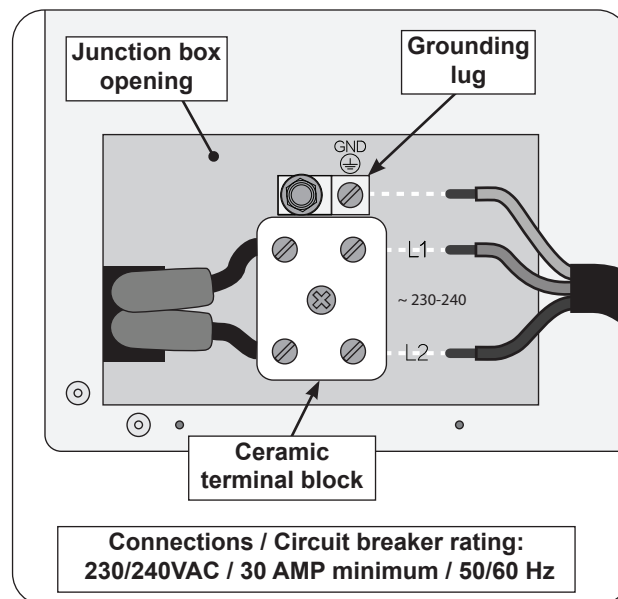

Fig. 27-3 Wire connection diagram
3. Connect the wires to the ceramic terminal block. Reference the wiring information below and Fig. 27-3.